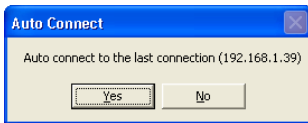

Figure 11: Auto Connect Window
- The Auto Connect window to reconnect to a previously connected unit (see Figure 11)